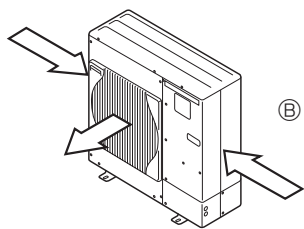

Fig. 2-5
- ③ Position the unit so that the air outlet blows perpendicularly to the seasonal wind direction, if possible. (Fig. 2-5)
(2) When installing a single outdoor unit (Refer to the next page)